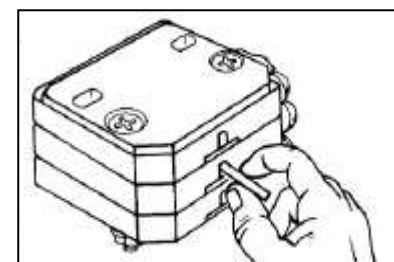

FIGURE 6-4
- (5) Inspect the brushes of brush block assembly for excessive wear (figure 6-4).